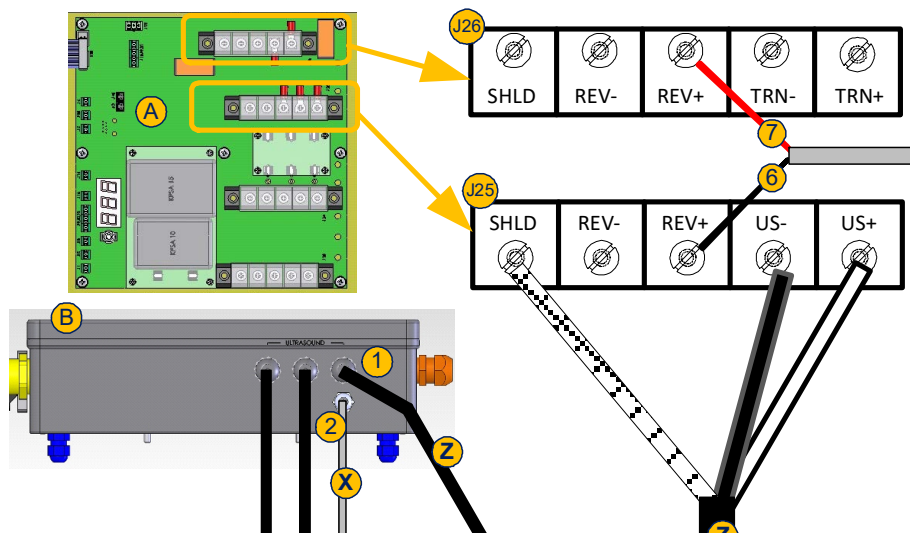
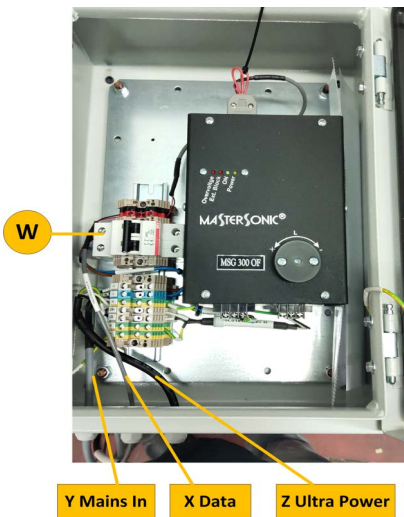

Figure 5-25: Ultrasonic Cleaner Cable Connections in the Connection Box
Figure 5-26: Ultrasonic Cleaner Module - Inside View
- Step 1.** The Ultrasonic Cleaner cable (marked **(Z)** in **Figure 5-25** above) is connected in the Connection Box #1 to terminal **(J25)** from the factory. From the Connection Box, extend the Ultrasonic Cleaner cable **(Z)** to the Ultrasonic Cleaner Module and thread it through gland in **Figure 5-26**.
- Step 4.** From the Ultrasonic Cleaner Module, extend the Control cable (marked **(X)** in **Figure 5-25** above) to the Atlantium Unit and thread it through gland **(2)** on the Connection Box #1 **(B)**.